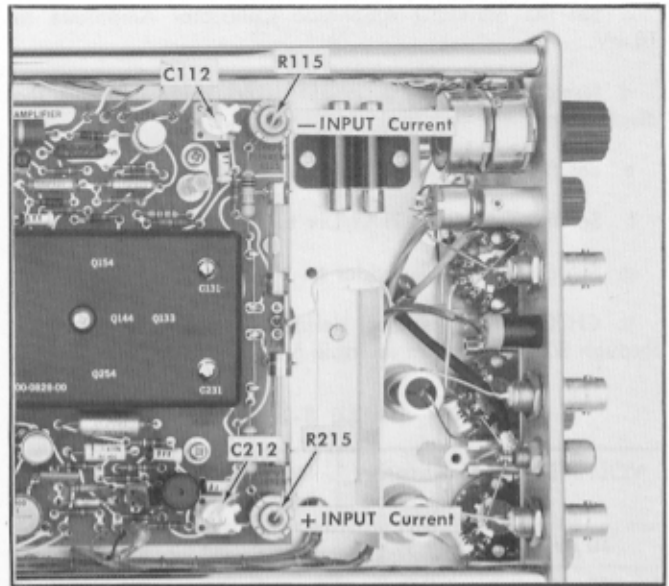

Fig. 5-6. Location of controls used in steps 7 and 8.
- ADJUST—The +INPUT Zero control, R215 (See Fig. 5-6) to return the trace to graticule center.
- ADJUST—The - Input Zero control, R115, (see Fig. 5-6) to position the trace to graticule center.